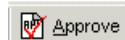

Figure 6-56. Approve button
1. Click the **Approve** button (Figure 6-56) or select **Approve** from the **Order** menu. You can also press **Alt + O, A** on your keyboard. The **Approve** button is located on the toolbar at the top of **Purchase Order** dialog box in order to avoid any accidental usage.